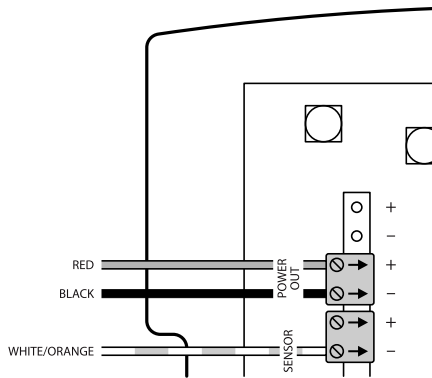

FIGURE 3
- Source** = Wire to negative terminal on sensor input of the desired device: EA800, EA400-12, EA200-12, UTA-1, TA-2HLD, and TA-3HLD (See Figure 3)